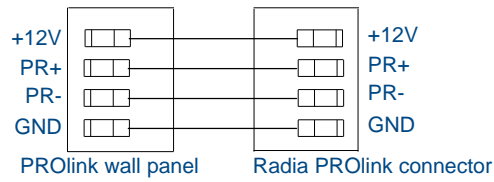

FIG. 18 PROlink wiring diagram
Figure 18 shows an example of the low-voltage connections, DIP switches and LEDs using the RDD-DM4 controller.
3. FIG. 18 shows how to wire the PROlink connector to a PROlink wall panel.